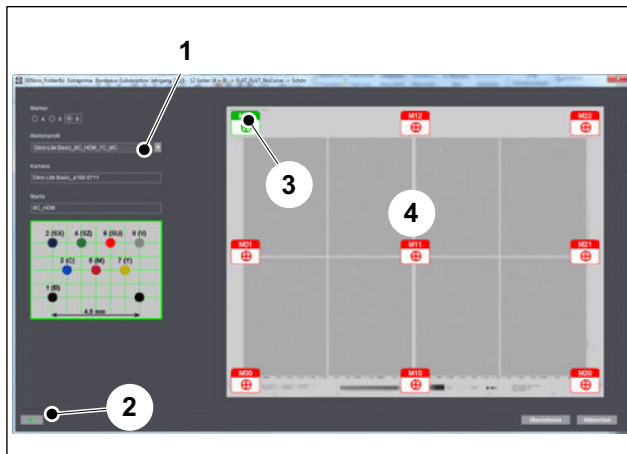

Fig. 17 Dialog box "Measurement editor"
7. Select the measuring mark profile (Fig. 17/1). This will automatically select the correct measuring mark and digital microscope.
- With the wizard: Click on the green arrow (Fig. 17/2). In the measuring marks panel (Fig. 17/4), the next mark to be measured displayed in black/yellow. The sequence is left to right and top row (tail edge) to bottom row (lead edge of print).
- Manually: In the measuring marks panel, click on the mark (Fig. 17/3) you want to measure.